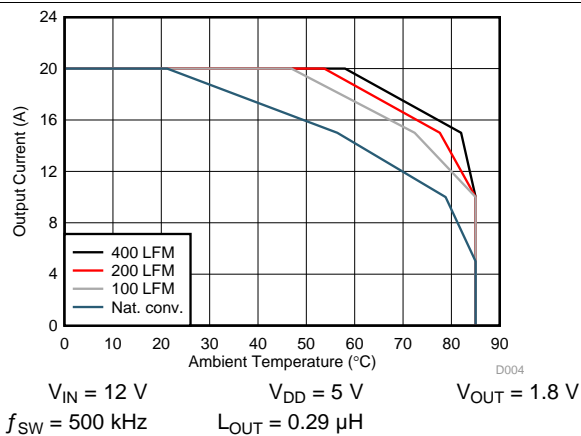
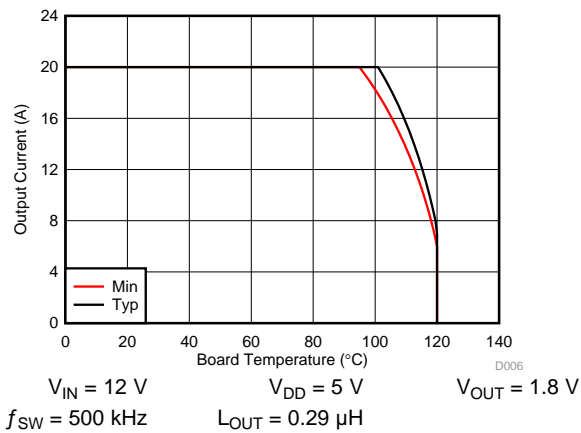

Figure 6. Safe Operating Area – PCB Horizontal Mount ⁽¹⁾
Figure 8. Typical Safe Operating Area ⁽¹⁾
The SOA curves in the CSD97394Q4M datasheet give engineers guidance on the temperature boundaries within an operating system by incorporating the thermal resistance and system power loss. Figure 6 and Figure 8 outline the temperature and airflow conditions required for a given load current. The area under the curve dictates the safe operating area. All the curves are based on measurements made on a PCB design with dimensions of 4.0" (W) x 3.5" (L) x 0.062" (T) and 6 copper layers of 1 oz. copper thickness.